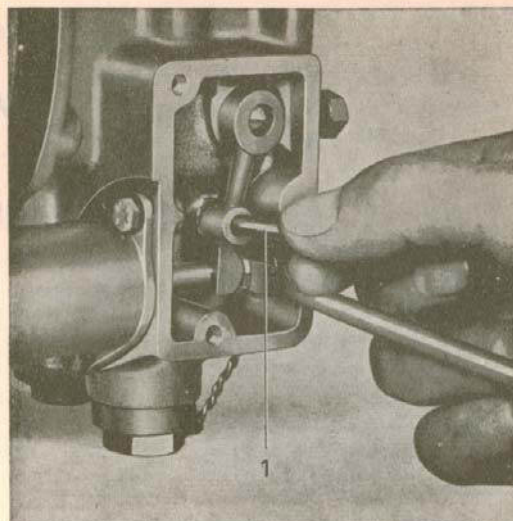

Fig. 3-60. Adjusting the control valve
9. Fit the other parts in the reverse order to removing. Press in the solenoid armature as far as it will go and check that a $3/16"$ (4.75 mm) diameter pin can be inserted through the hole in the lever and into the housing, see Fig. 3-60.